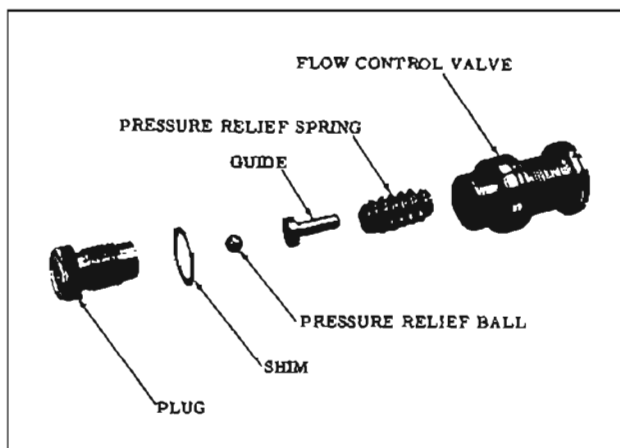

Fig. 8-30 Flow Control Valve
- b. Remove the hex head plug and shims. (Fig. 8-30) Note the number of shim(s) on the
1. If the flow control valve was disassembled, assemble as shown in Fig. 8-30. Use the same number of shims removed, as altering shim thickness will change relief pressure. Tighten the plug to approximately 4 ft. lbs.